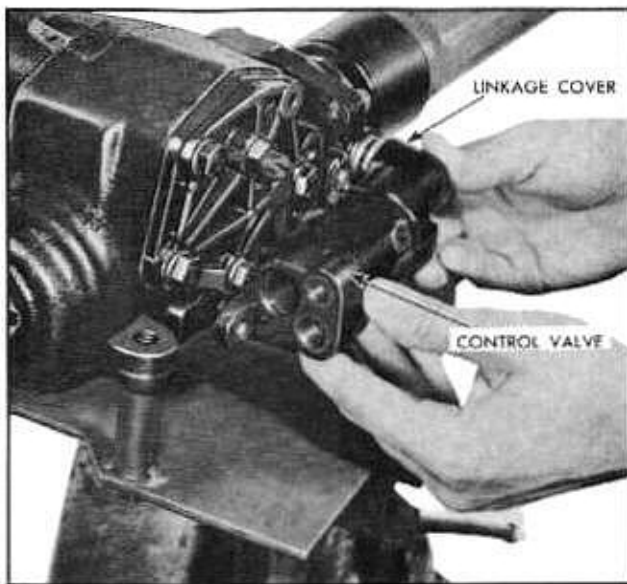

Fig. 9-26 Removing Control Valve and Linkage Cover
2. Remove control valve retaining screws and lift control valve and linkage cover off gear housing (Fig. 9-26).